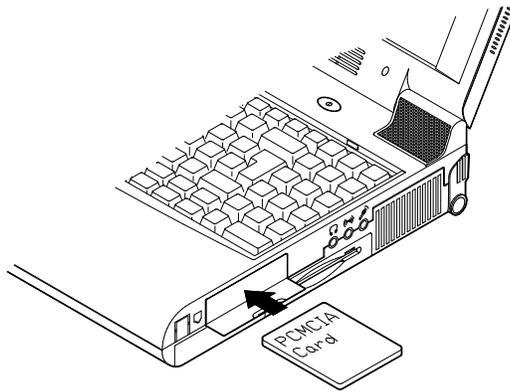

Figure 2-19
2. Align the PC card with the slot and push it in firmly until it locks into place (Figure 2-19).